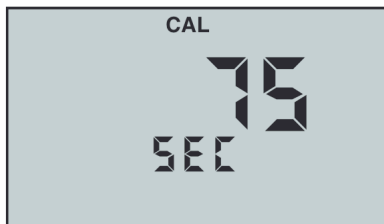

Figure 23
5. Press  or  to change the amount of time (see Figure 23). Maximum time of 75 seconds is shown.